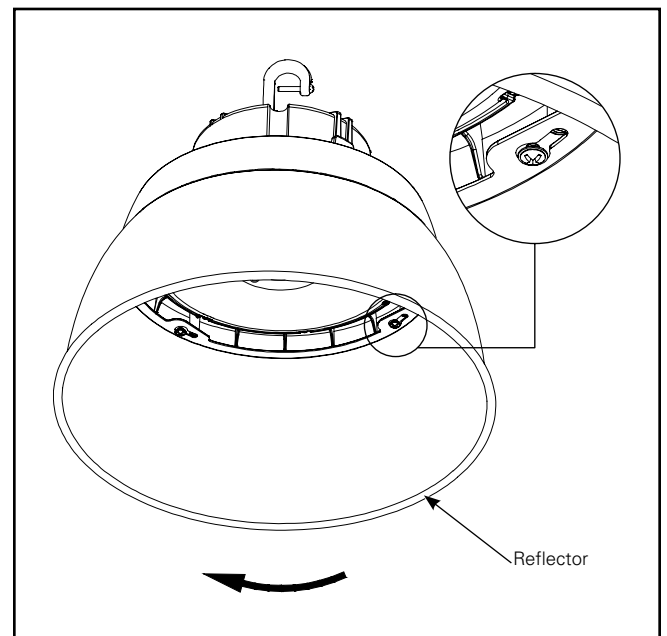

Figure 8.
2. Align reflector keyhole slots with screw and rotate the reflector clockwise until it stops. (Figure 8.)